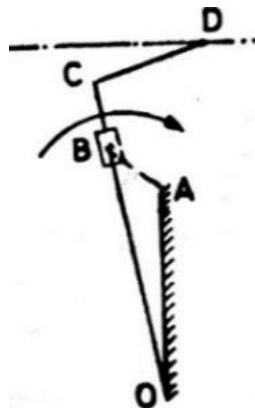

Fig. 6a
- 6 The following data refer to a quick return motion mechanism of crank and slotted lever type as shown in Fig. 6a. The dimensions are; Fixed link OA=250 mm, Crank AB=100 mm, Slotted lever OC=400 mm, CD=150 mm and Angle OAB=120°. Uniform speed of crank in clockwise direction is 1rps. The vertical distance of line of stroke of ram at D from O is 450 mm. Determine acceleration of ram at D and Coriolis acceleration of slider at B 20